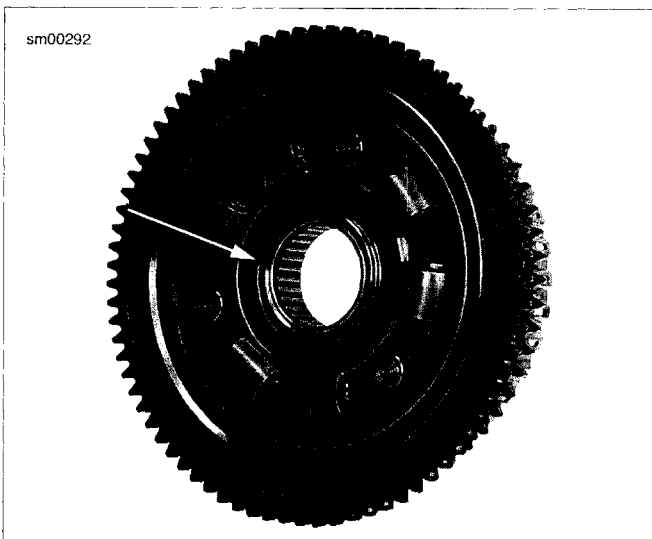

Figure 5-29. New Needle Bearing in Clutch Shell
6. See Figure 5-29. Inspect clutch shell needle bearing for smoothness. Rotate the clutch shell while holding the clutch hub. If bearing is rough or binds, it must be replaced. See 5.6 PRIMARY DRIVE AND CLUTCH: XR MODELS, Clutch Shell Bearing Replacement.